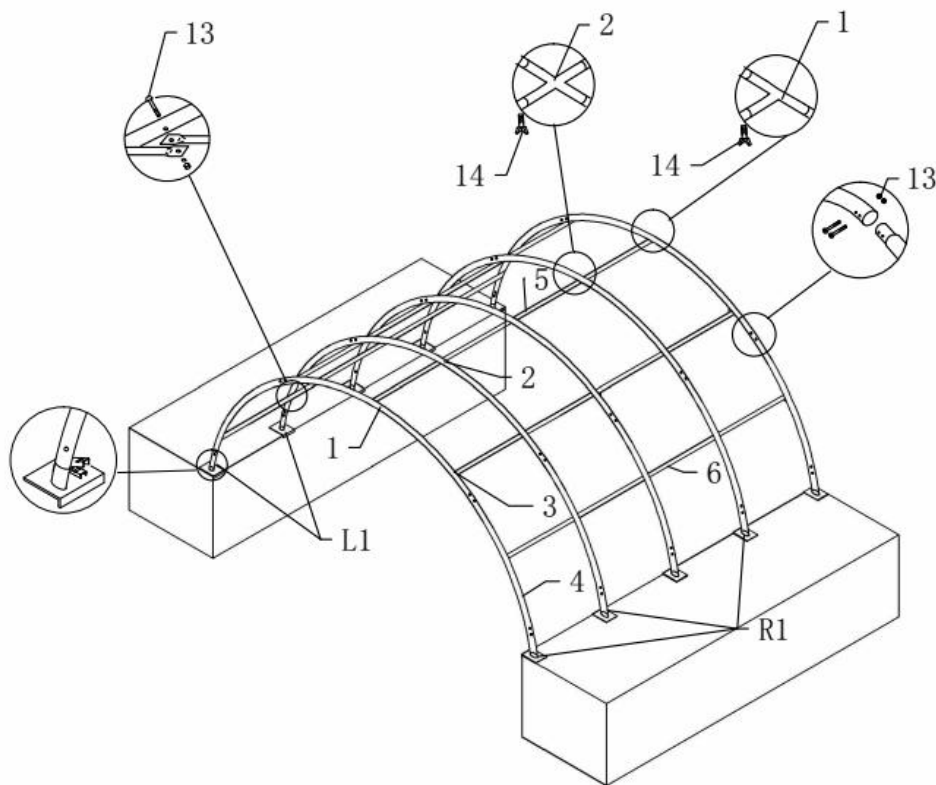

Figure 2
1. As Figure 2 shown find Three-way fitting (part code 1), Top bent tube (part code 3) and Sidewall bent tubes (part code 4). To connect them by Screw M8x70 (part code 13) .Which makes one group of arch. Please NOTE the direction of the screw. DO NOT install the screws on the top of the truss where the fabric will rest.